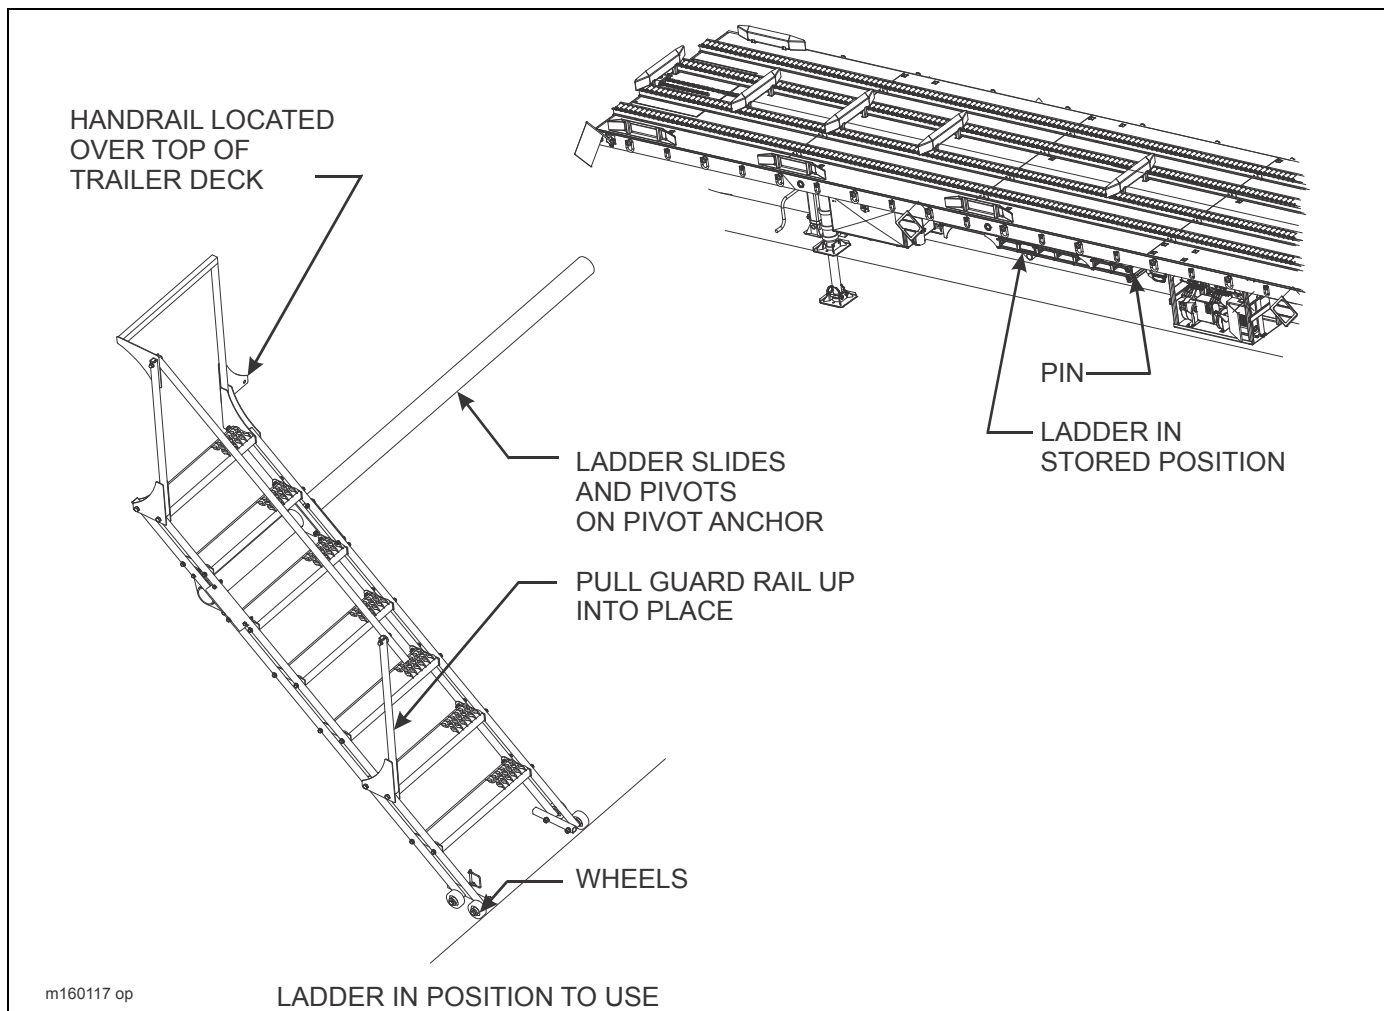

Figure 3-9: Steps for Ladder Usage and Storage
2. Pull ladder out from stored position. The top of the ladder (closest to the front of trailer) will tilt up until wheels touch the ground (closest to the rear of trailer) **(See Figure 3-9.)**
1. Pull ladder back out releasing the handrail stop from above the trailer deck **(See Figure 3-9.)**